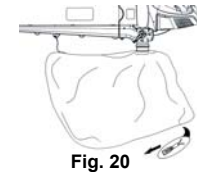

Fig. 20
2. Unzip the bag over a receptacle for debris, such as a garbage bag, or compost bin. (Fig. 20)